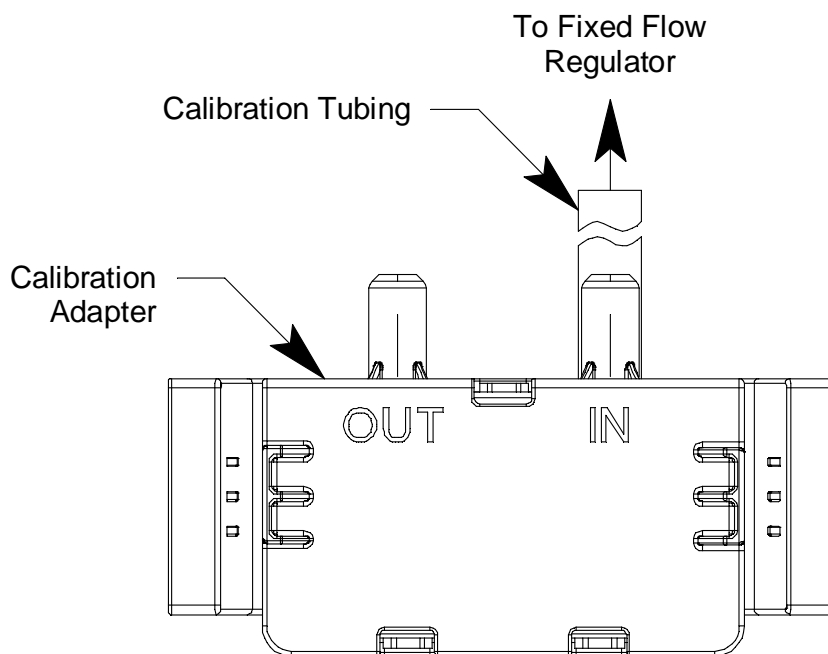

Figure 7: Calibration Kit Assembly
4. Use the sample tubing to connect the calibration adapter to the regulator. Attach the tubing to the calibration adapter on the inlet side as shown below in Figure 7.